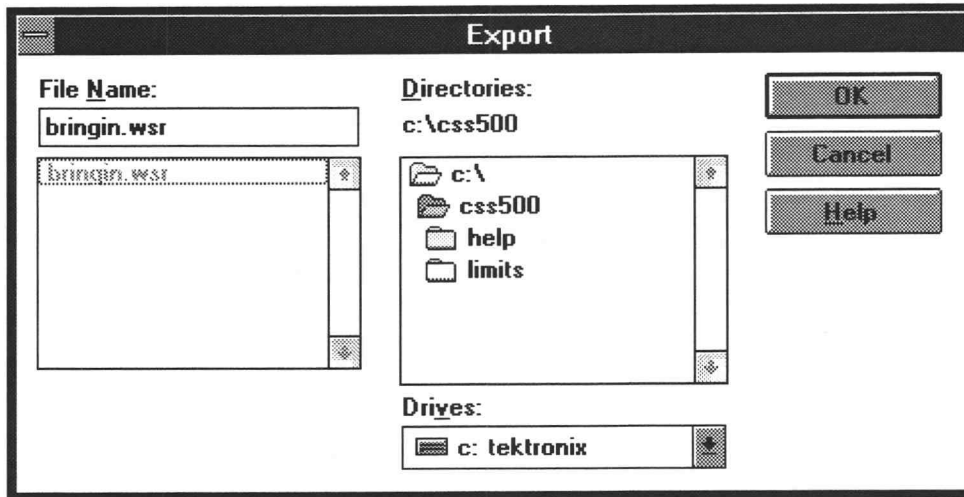

Figure 6-28. The Export dialog box.
5. Choose the Export Results button to export some results (the example uses Site 888) into a *.wsr file. Figure 6-28 shows the Export dialog box.